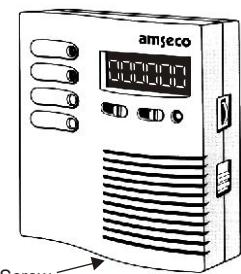

Fig. 7
1. Remove the screw from the bottom of the receiver and separate the front cover from the wireless receiver (refer to Fig. 7).
3. Replace the receiver front cover and secure it using the screw provided (Refer to Fig. 7).